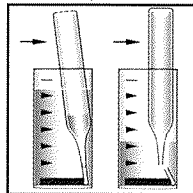

Figure 3
3. Immediately place the Vacu-vial ampoule, tip first, into the sample cup. Snap the tip. The ampoule will fill leaving a bubble for mixing (fig. 3).